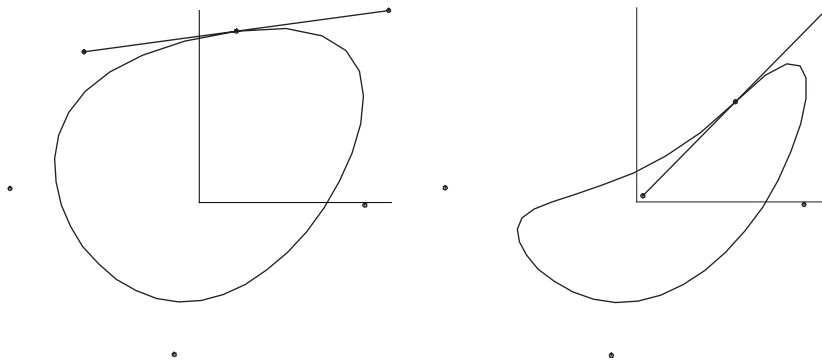

Fig. 5
- 5 **Drag 'pt1 or 'pt5' around** (e.g. Fig. 5). The loop remains closed and the curvature remains smooth across 'bead1'.